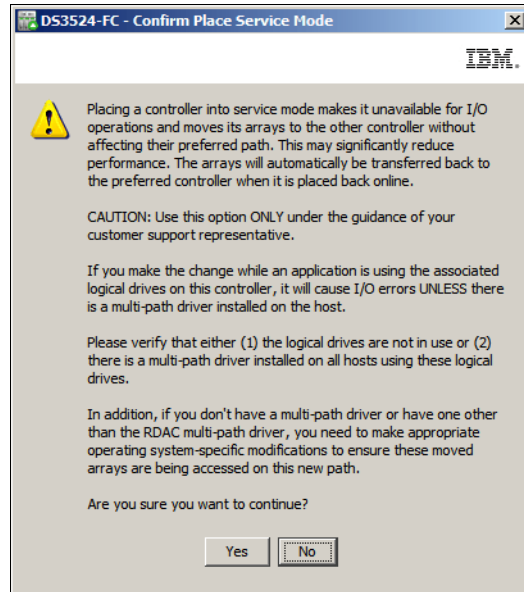

Figure 14-137 Confirm Place In Service Mode
2. The window shown in Figure 14-137 on page 422 will be displayed. Read the information and then click the **Yes** button to confirm that you want to place the controller in service mode.